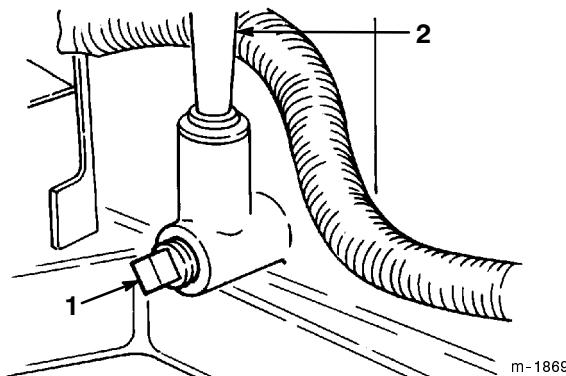

Figure 15
4. Place a pan below the oil dipstick/fill tube and remove the drain plug (Fig. 15).